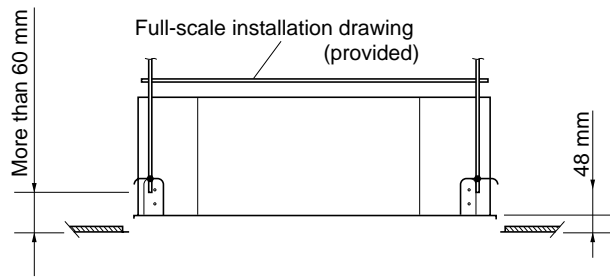

Fig. 3-36
- (1) When placing the unit inside the ceiling, determine the pitch of the suspension bolts using the provided full-scale installation diagram. (Fig. 3-36)
- (2) The length of suspension bolt must be so that the distance between the bottom of the bolt and the bottom of the ceiling is more than 60 mm as shown in Fig. 3-36.
- (4) Remove the protective cardboard used to protect the fan parts during transport.
- (5) Adjust the distance between the unit and surface of the ceiling (48 mm) using the accessory gauge. (Fig. 3-36)